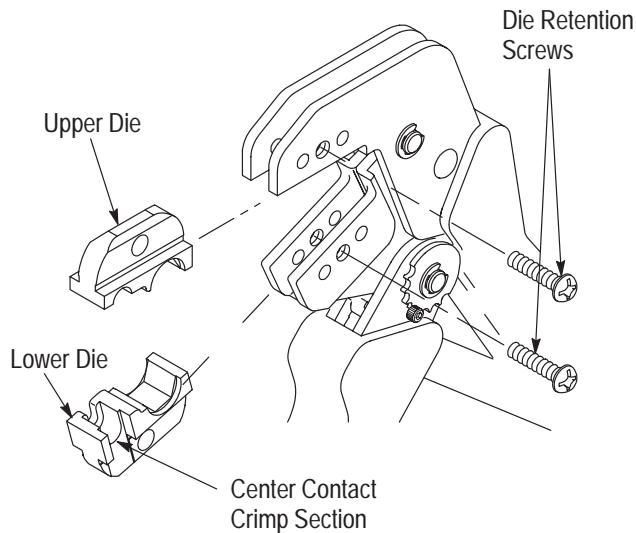

Figure 2
#### 3.1. Shouldered Dies (Figure 2)
*Die assemblies with center contact crimp sections should be installed with the center contact crimp section toward the front of the tool jaws as shown in Figure 2. If indicated otherwise in other instructions, follow the specific die requirements demonstrated in that document.*